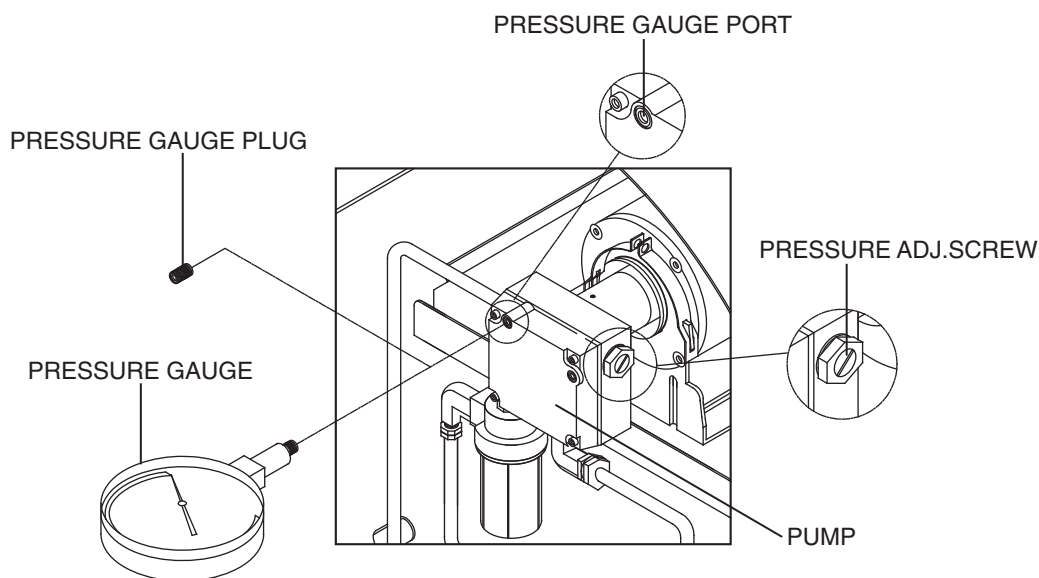

Figure 15. Adjusting Pump Pressure
- Install accessory pressure gauge to pressure gauge port. (See Figure 15)